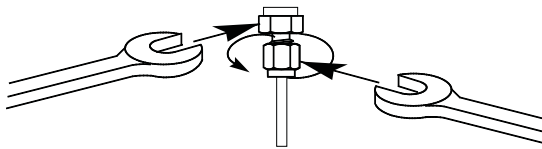

Figure 15 Final tightening
- 8** For 1/8-inch Swagelok fittings, use a pair of 7/16-inch wrenches to tighten the fitting 3/4 of a turn (Figure 15). For 1/4-inch fittings, use a pair of 9/16-inch wrenches to tighten them 1-1/4 turn (Figure 15).